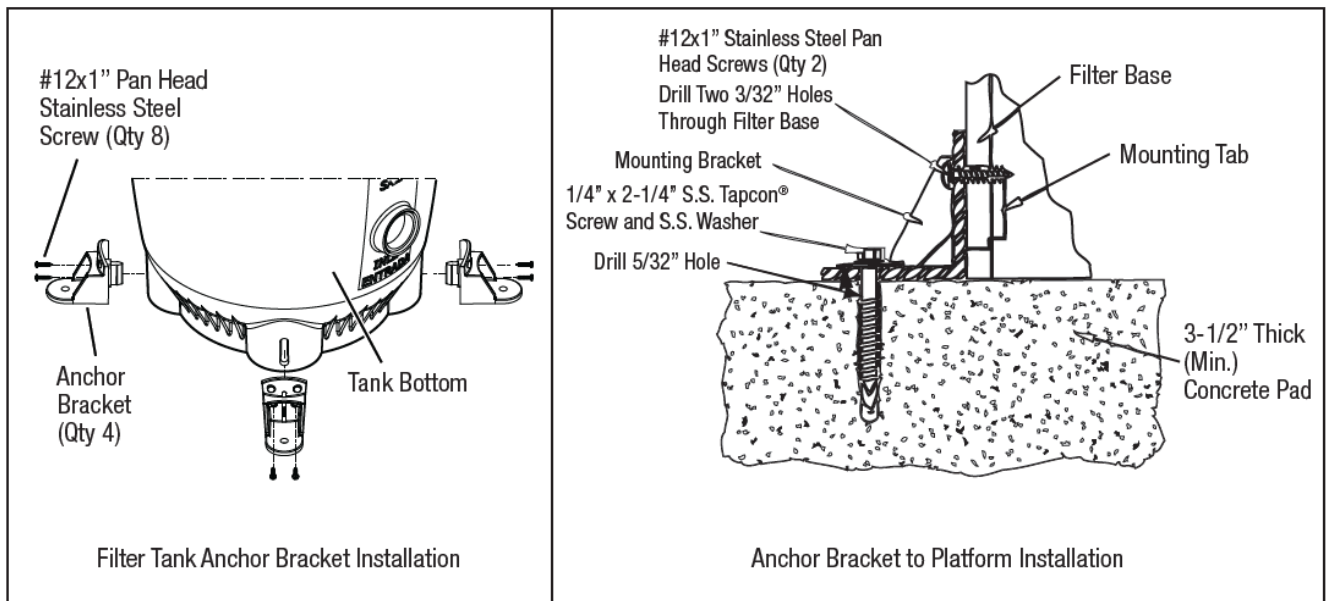

Figure 3. Anchor Bracket Installation
Install the Tapcon screws and washers through each of the four (4) anchor brackets to secure the filter to the equipment pad. See Figure 3. Do not over-torque the screws.